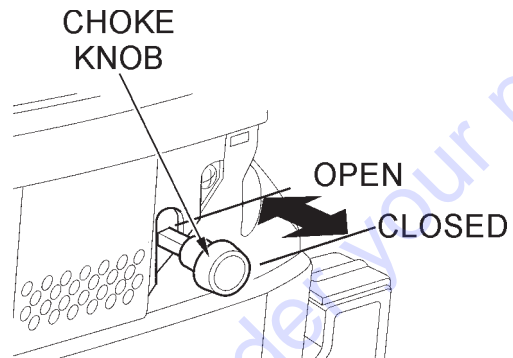

Figure 10. Choke Knob
5. When starting a cold engine, pull the choke knob (Figure 10) out to the **close** position. In warm weather or when the engine is warm, the unit can be started with choke halfway or completely **open**.